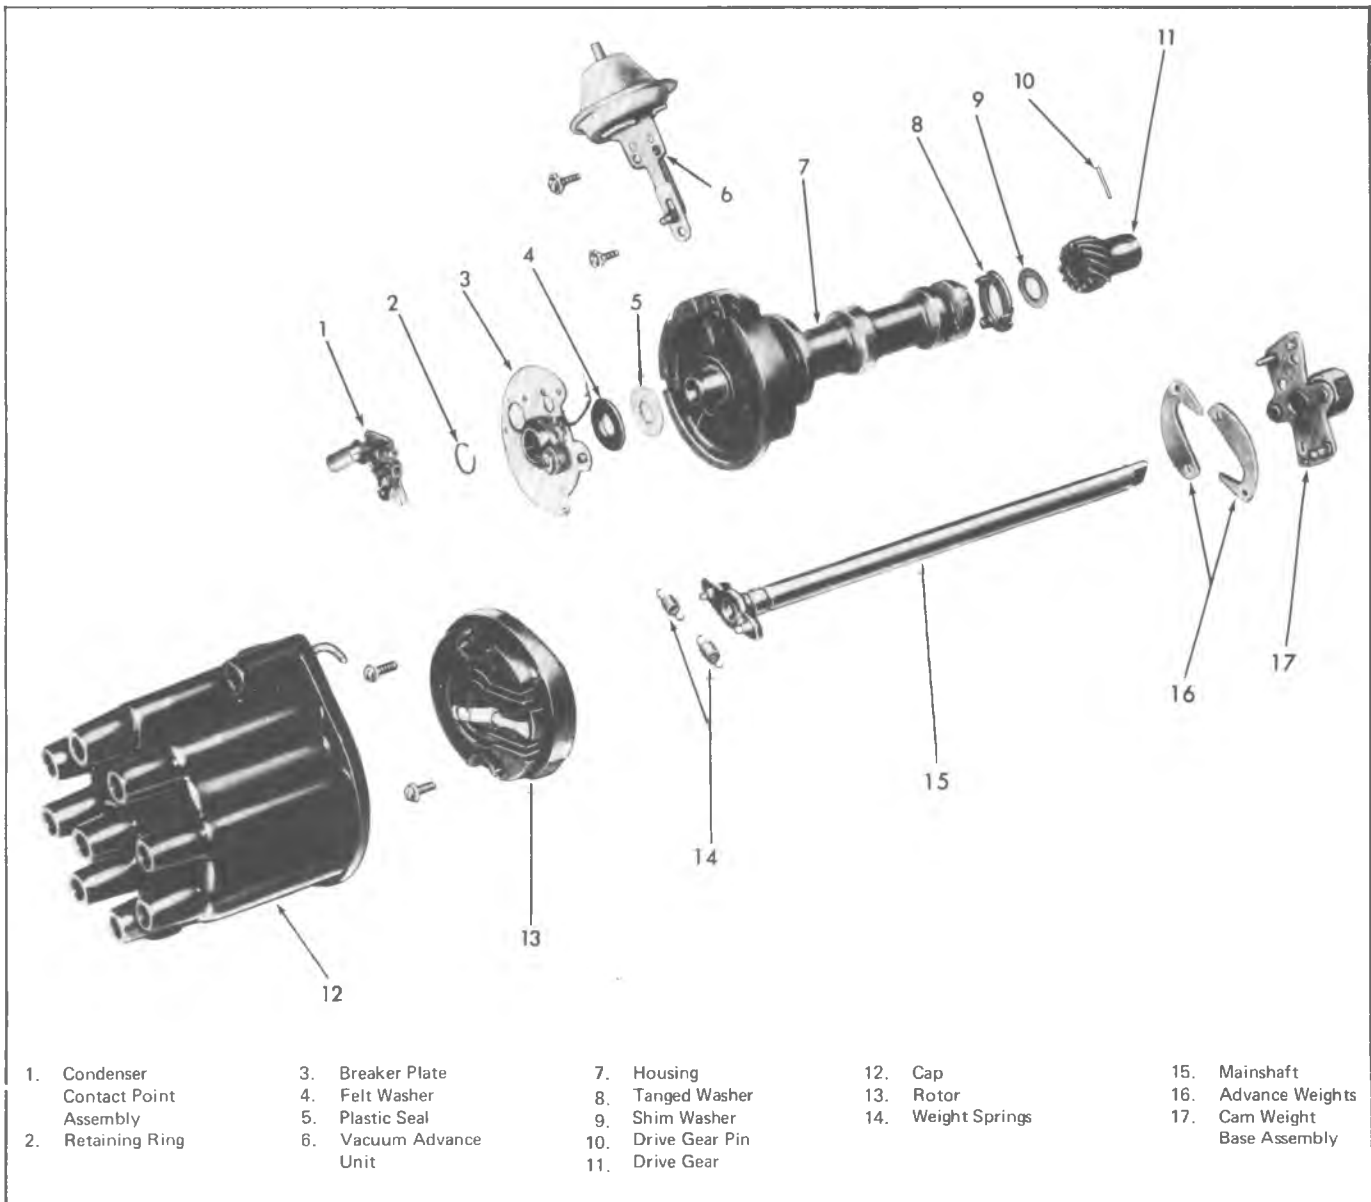

Fig. 20i-V-8 Distributor (Typical) - Exploded View
**V-8 Engines (Fig. 20i)**
**V-8 Engine—(Fig. 20i)**